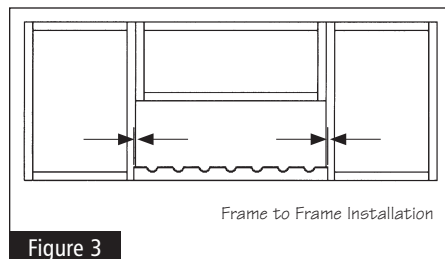

Figure 3
- **36" WIDE:** Trimming is required only on the Front Rack if it is being installed between the cabinet frames on cabinets. Trimming will also be required on the Back Rack if it is being installed between 3/4" thick Side Panels. Hold the Front Rack against the cabinet frame. Center rack in the 36" opening and mark where the ends of the rack overlap the frames. Cut on marks for each end. See Figure 3.